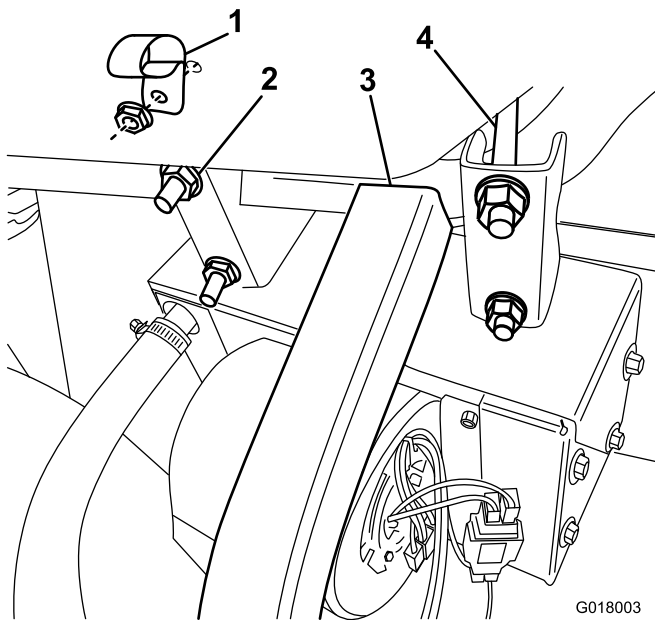

Figure 16
3. Attach the heater and bracket assembly onto the front frame tube, snug against the u-frame, using the square u-bolts and flange nuts provided (Figure 16).
4. Attach the r-clamp to the glove box with a flange-head screw and nut (Figure 16).